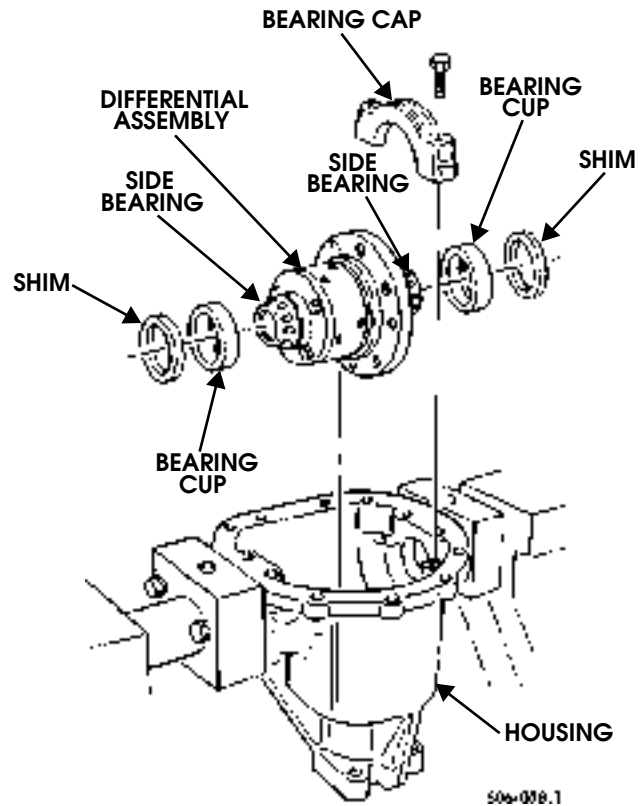

Figure 9-93: Side Bearing Cup and Shim Installation
32. Rotate housing downward 90 degrees. Install side bearing cups and side bearing shims on side bearings. Use 0.080 in. (2 mm) shims as a starting point (Figure 9-93).